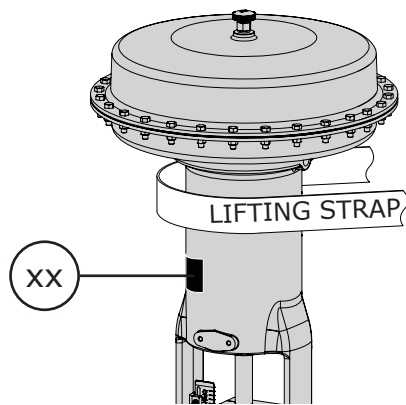

Figure 3 Actuator Lifting Suggestions
Check the packing list, verify that the list includes all the materials in the shipping container before unpacking. Valve information can be found on the nameplate (Key 33). Refer to Figure 3 and xx for possible nameplate locations.
When lifting the valve from shipping container, place properly rated lifting straps securely around the neck of the actuator, refer to Figure 3 for strap placement. Straps should be placed to avoid damage to tubing and other mounted accessories.
- 3 Support the actuator - the actuator may be able to be removed manually on the smaller sizes. It is recommended the lifting eyes attached to the actuator casing be used (refer to Figure 3). If there are no lifting eyes, it is advisable to remove 2 actuator casing cap screws, 180° apart, and temporarily replace them with eye bolts and nuts. Position the lifting straps through the lifting eyes or eye bolts to avoid damage to the tubing and mounted accessories.